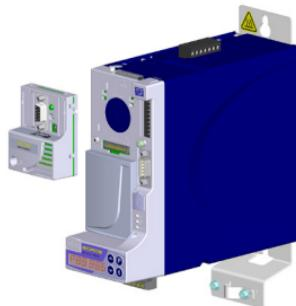

Figure 4.2: Accessory installation
3. Connect the accessory to the appropriate slot, as illustrated in figure 4.2. The accessory ECO3 can only be connected to Slot 2.